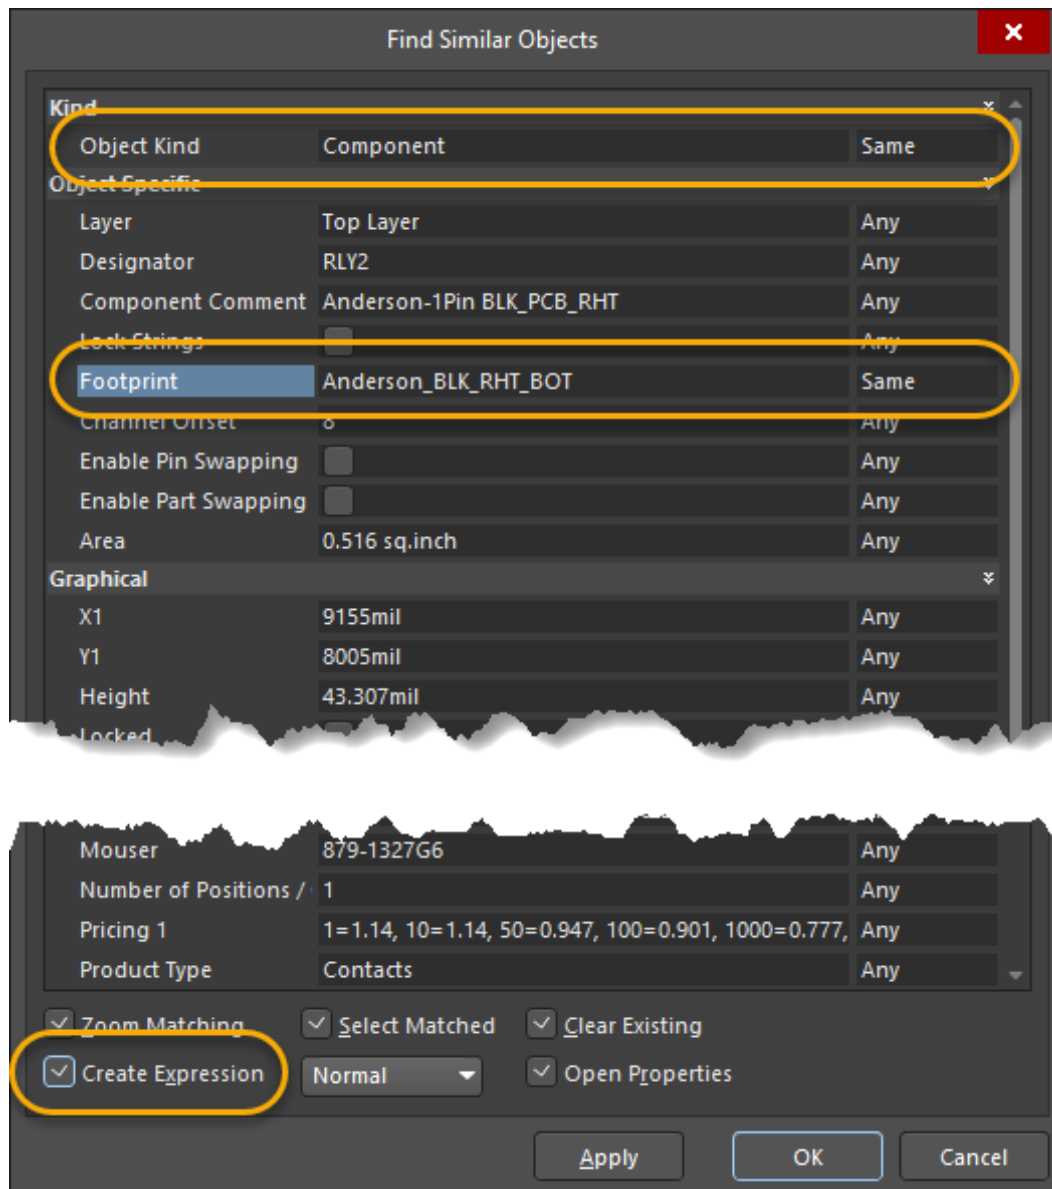

Figure 9. Find Similar Objects dialog
26. Ensure that *Object Kind* and *Footprint* are set to **Same**, and the **Create Expression** checkbox is enabled as shown in Figure 9. Then, click **OK**.